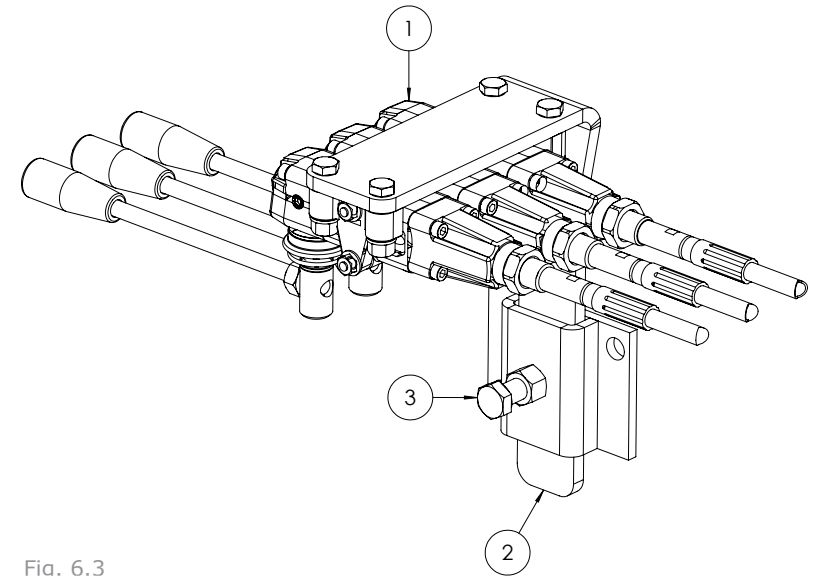

Fig. 6.3
Mount the control levers (1) in the tractor cab on the mounting (2) and socket (3) supplied see fig 6.3. Place them in a position that is in comfortable reach of the driver and where he has good visibility of the machine when operating them. Route the control cables to avoid sharp edges and bends. Allow for movement of the cables when the tractor is turning.